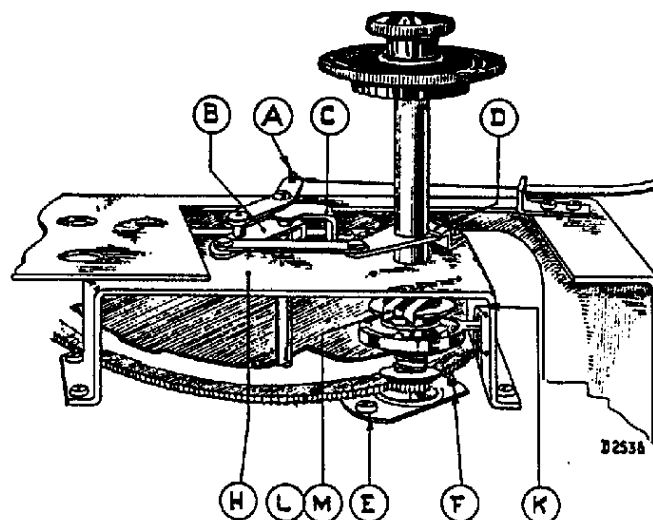

Fig. 12
2. Loosen the sliding cable from the peg A (see fig. 12).